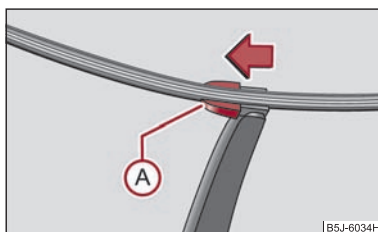

Fig. 48 Wiper blade for rear window
- Fold windscreen wiper arm out from the windscreen and position the wiper blade at right angles to the wiper arm ⇒ fig. 48.
- With the other hand unlock the locking button (A) in the direction of arrow and remove the wiper blade.